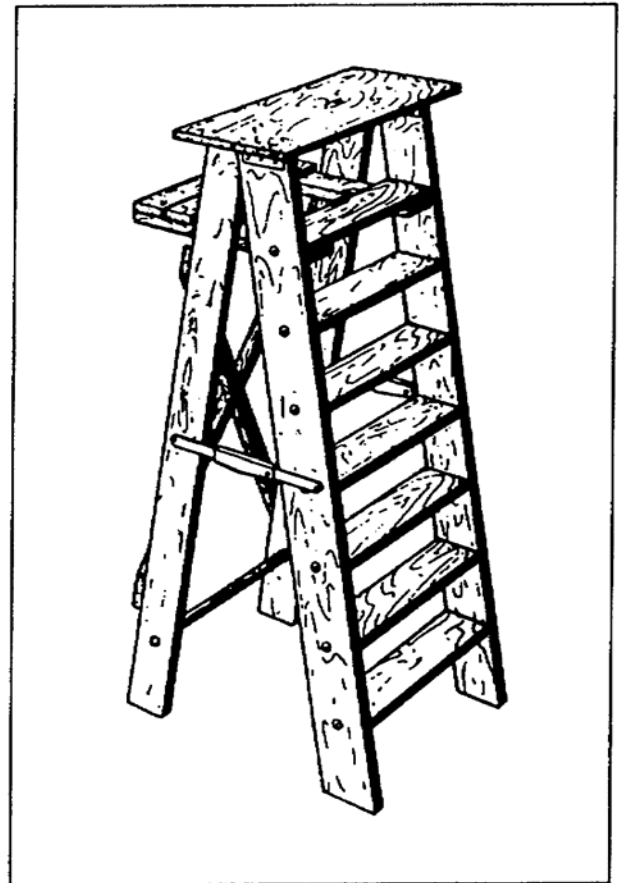

Figure 4-11. Stepladder
c. Stepladder. Use a stepladder (Figure 4-11) on flat surfaces where secure footing is obtainable. A stepladder is available in lengths up to 20 feet. Ensure that the brace is extended and locked when erecting a stepladder.